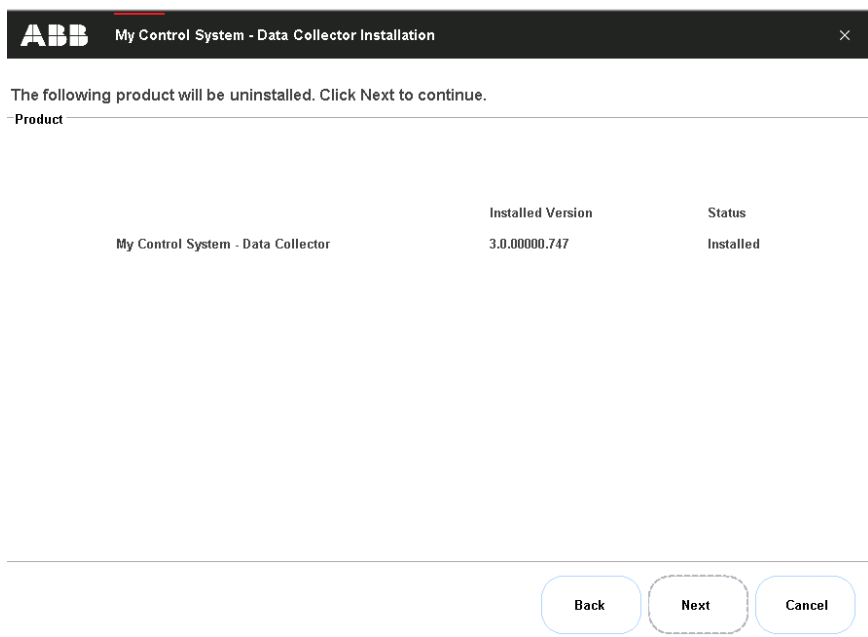

Figure 3.16: Uninstallation completed
5. Uninstallation begins. Click **Finish** to complete the uninstallation, as shown in **Figure 3.16**.